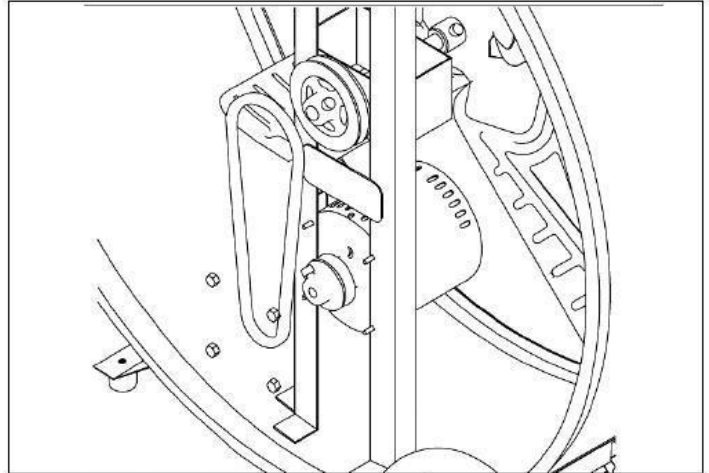

Figure 3: Adjusting Fan Belt
3. Remove the belt to replace it or adjust the motor to tighten the belt (Figure 3)